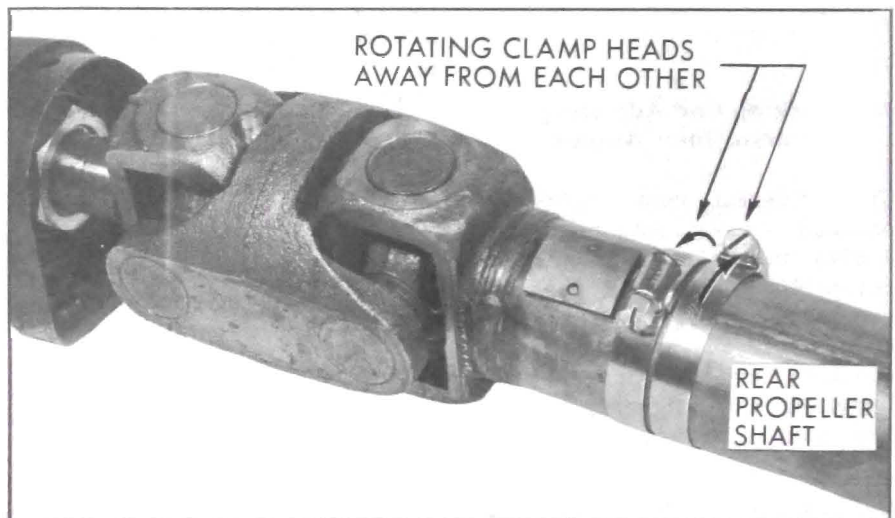

Figure 6-78—Rotating Hose Clamp Heads From Each Other
6. Run the car through the speed range to 65 - 70 MPH. If no unbalance is felt, nothing further need be done on the hoist. However, if unbalance still exists, rotate both clamps to the opposite side of the shaft and retighten. Run car again and notice if the unbalance feel is better or worse; if worse, return the clamps to the original position. Apparently the combined weight of the two hose clamp heads was excessive, so to reduce this excess rotate the clamp heads away from each other 45° (one each way from the original position). See Figure 6-78. Run car and note if unbalance has improved.